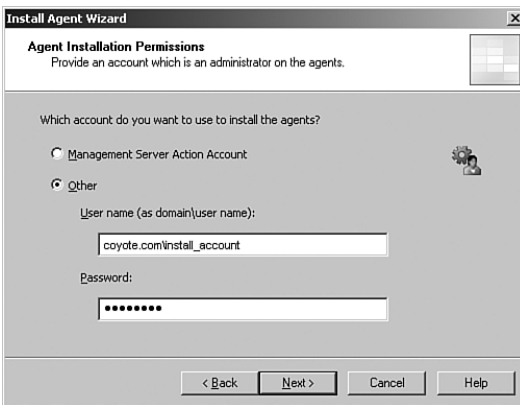

FIGURE 11.11 The Agent Installation Permissions screen within the Install Agent Wizard.
- The second screen in the Install Agent Wizard dialog prompts you for an account that will allow you to install the agent. Enter an account from the untrusted domain with local administrator rights to the computer on which you are installing the agent by selecting Other, and enter the account that will install the agent. Figure 11.11 shows the Agent Installation Permissions screen where the account is specified.